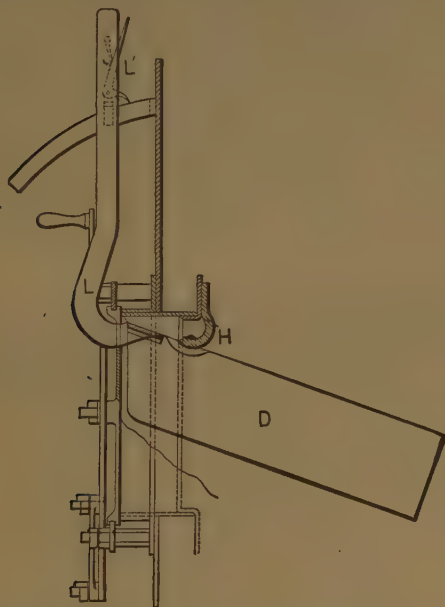

Fig. 13. Hudson Furnace-door Deflector.
A. It is shown in figures 13 and 14. D is a deflector hung from a hook H attached to the fire-